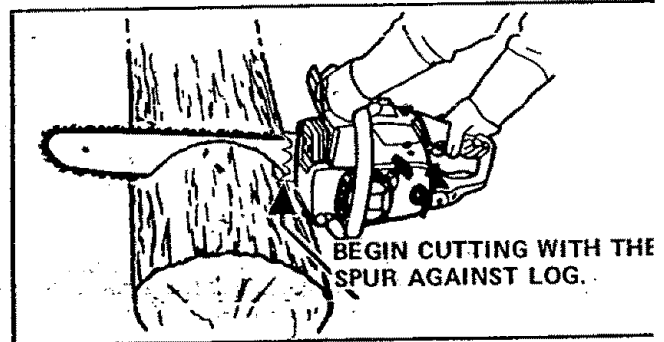

Figure 27
- Begin cutting with the spur against the log.** Figure 27.